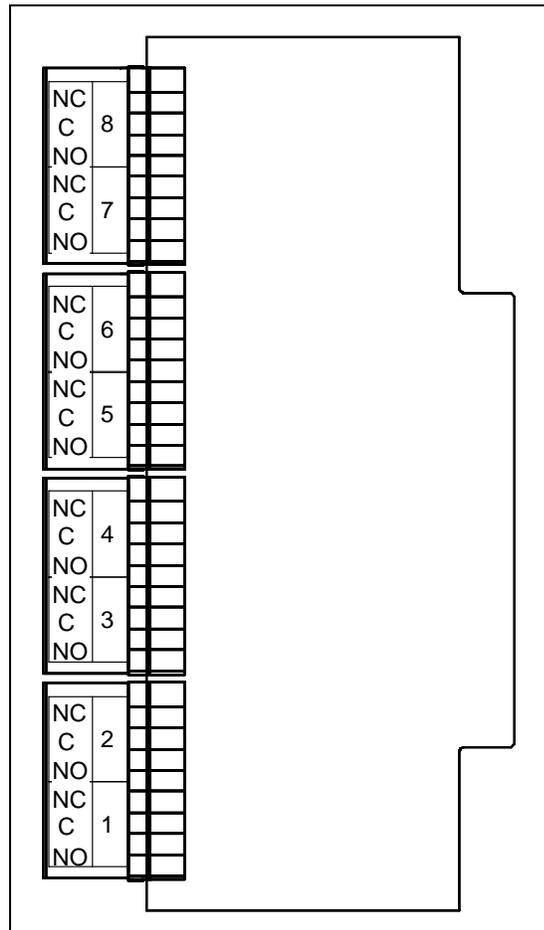

Figure 26: Relay Module Labels
3. Locate the applicable relay module. Each relay module has 8 relays installed. There is a plug-in terminal strip for each set of relay contacts. They are labeled “1-8” from bottom to top. Refer to Figure 26 for identifying each relay set.